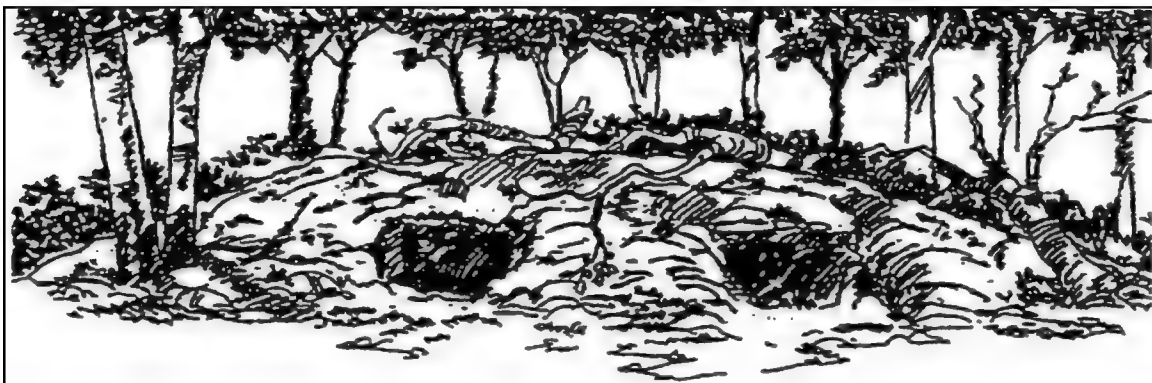

Figure 4-14. Sketch of the front view of a Javelin defensive fighting position.
(1) **Front View** (Figures 4-14 and 4-15). The front of the Javelin defensive fighting position provides considerable protection from small arms and indirect fire. However, the gunner is limited in his ability to engage targets.